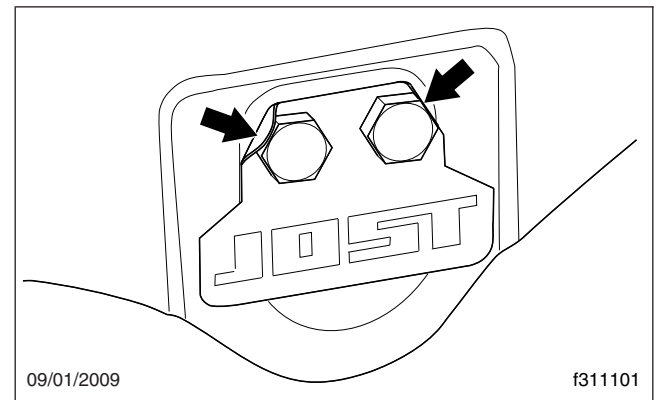

Fig. 3, Bracket Pin Bolt Locking Tabs
4. Inspect the bracket pin bolts. Make sure the locking tabs are properly securing the bolts in place. See **Fig. 3**.